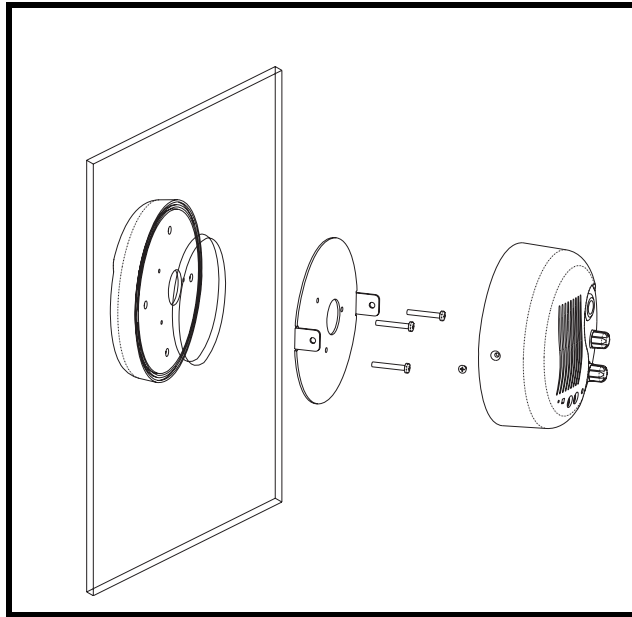

FIGURE 2. ICW-3 Assembly Detail
1. Remove the two screws (one on each side) holding the mounting plate to the operator assembly. (See Figure 2 .)